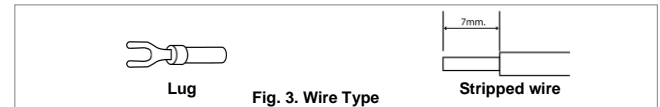

Fig. 3. Wire Type
- Use flexible cable (stranded or solid), AWG no. 22-14. The torque at the Connector shall not exceed 13Kgf.cm The insulation stripping length should not exceed 0.275" or 7mm Refer to Fig. 3.